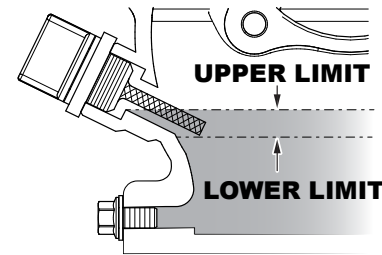

Figure 14. Engine Oil Level
4. If the oil level (Figure 14) is low, fill to the edge of the oil filler hole with the recommended oil type (Table 7). Refer to Table 4 for engine oil capacity.